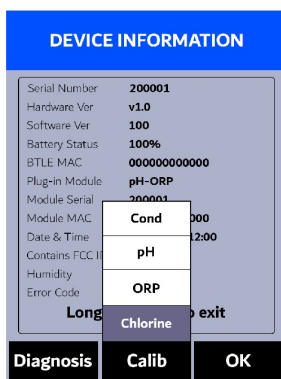

Figure 34.
3. Press **Calib** (**>**) as needed to highlight **Chlorine** calibration in the selection menu (Figure 34).